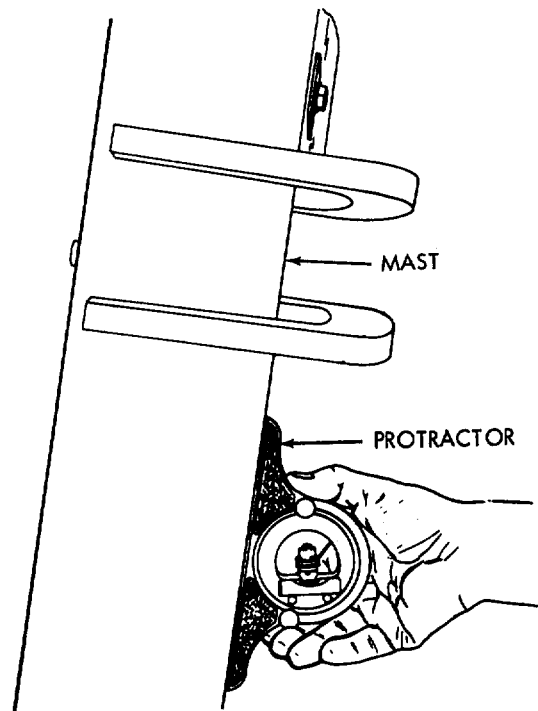

Figure 4-58. Checking mast tilt angle.
(1) Use a protractor to obtain the proper degree of mast tilt.
(2) Set the protractor at 8° and place the protractor on the back of the mast. Tilt the mast to the end of the backward stroke. Refer to figure 4-58.